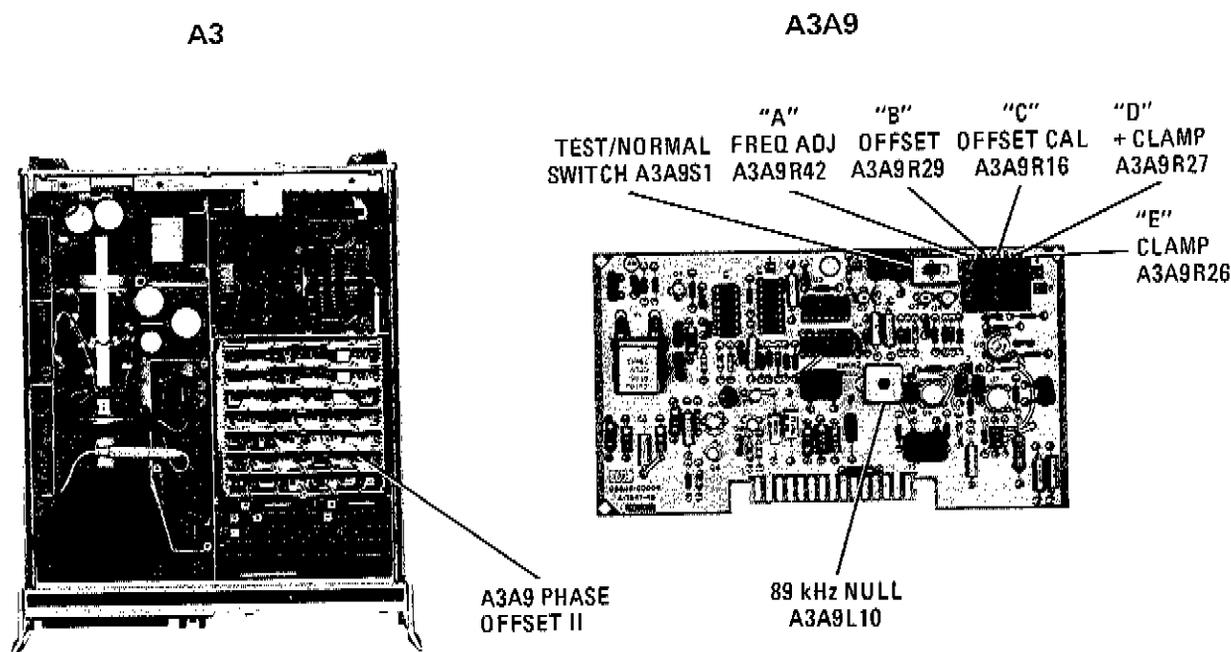

Figure A5-36. A3A9 Phase Offset II Adjustment Locations
- l. Set A3A9S1 TEST switch to TEST position (right). (See Figure A5-36).
- m. Connect external Frequency Counter to pin 15 of A3A9 connector. (Use a 10:1 oscilloscope probe to avoid loading circuit.) If the counter indicates 893 kHz \pm 3 kHz, go to next step. Adjust "A" control A3A9R42 (Figure A5-36) for an output frequency of 893 kHz \pm 3 kHz. Disconnect Frequency Counter.